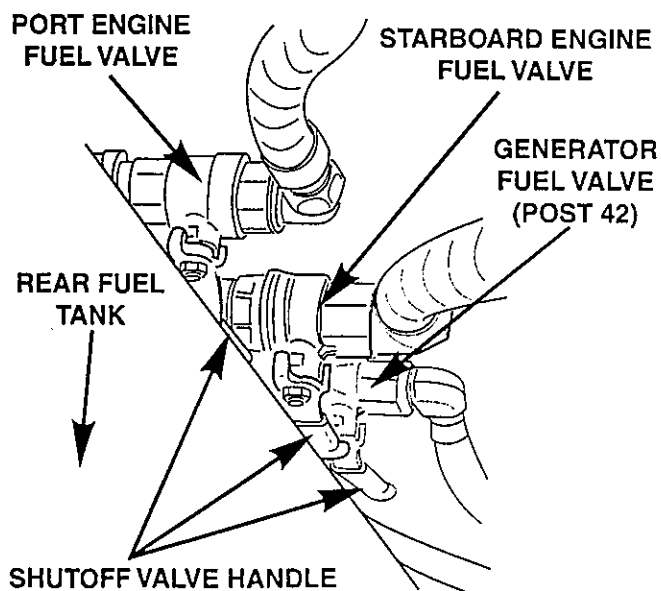

Figure 3-12 Fuel Shutoff Valve
13. See Figure 3-12. Open the fuel shutoff valves in the fuel lines for both engines and the generator. Valves are open when handles are in line with hose.
5. See Figure 3-12. Check that the fuel shutoff valves in the fuel lines at the fuel tanks are open. Valves are open when handles are in line with hoses.